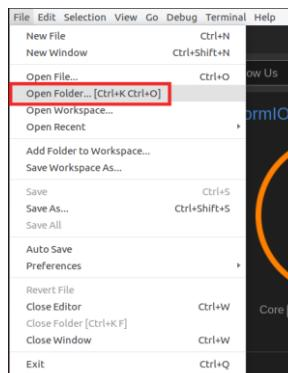

Figure 103. Open Folder
4. On the top menu bar, click on *File* → *Open Folder* (see Figure 103) and browse into directory *[RVfpgaEL2NexysA7DDRPath]/examples/examples_PlatformIO*